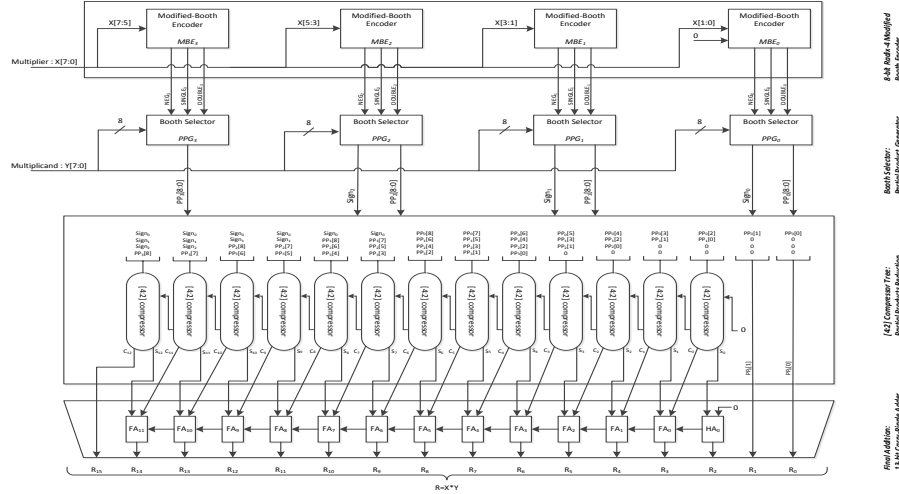

Fig. 1. Top-Level Design
- **Application in the 8-bit multiplier case:** Having the functionality of our design well defined, we proceed with the Top-Level design of our 8-bit Booth Multiplier. The outcome of such an exploration is presented in Figure 1.